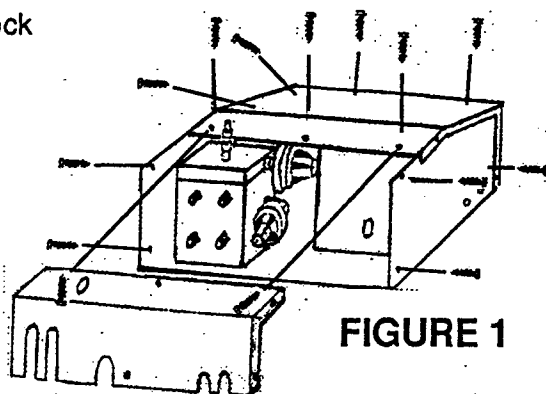

FIGURE 1
1. Clamp instrument to top of recovery cart by securely fastening "U" shaped clamps around recovery cart handle bars as shown in Figure 1.
3. Remove eight (8) Phillip's head screws from back cover of instrument.
1. Remove the back cover by unscrewing the eight (8) screws and lifting away. Remove the six (6) case top screws (See Fig. 1).